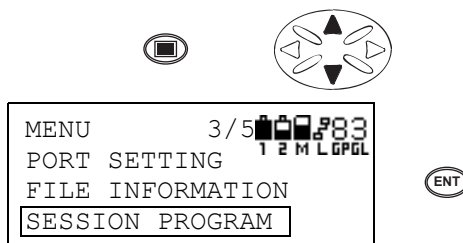

Figure 3-114. Initiate Menu Mode, Scroll to Session Program, and Press Enter
- Press the **menu** key to enter the menu mode. Press the **up/down cursor key** to select **SESSION PROGRAM** and press **ENT** (Figure 3-114).